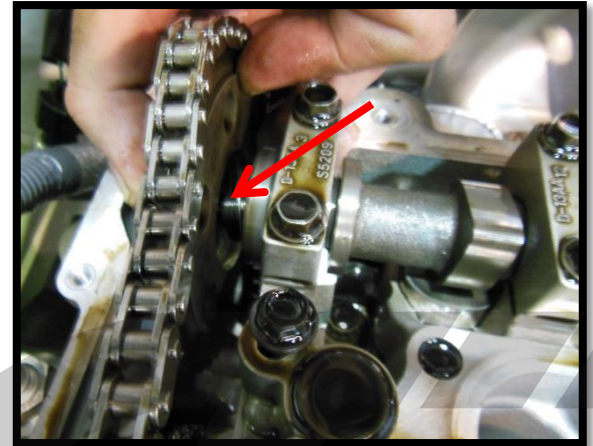

Figure 5j
- h) **Place the exhaust timing sprocket onto the exhaust camshaft.** Place the bolt through the flat side of the sprocket and the washer (red arrow) into the recessed side. Loop it through the timing chain and place it onto the camshaft. Hand thread the bolt into the camshaft and do not tighten at this time (Figure 5j).